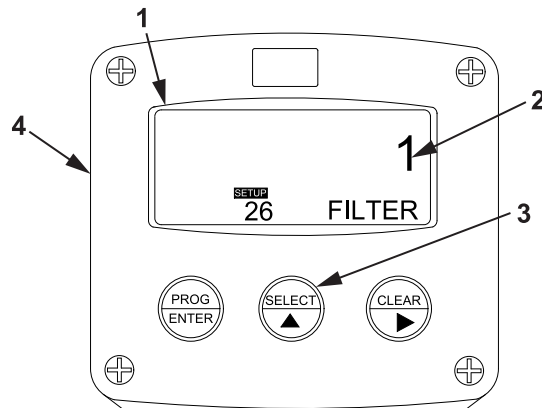

Figure 15. 1 Display.
- l. Verify that 1 (Figure 15, Item 1) appears on the display screen (Figure 15, Item 2). If 1 (Figure 15, Item 2) does not appear, perform the procedure to program tank volume meter monitor settings and select 1 (Figure 15, Item 2).
- m. Press the SELECT key (Figure 15, Item 3) on the tank volume meter monitor (Figure 15, Item 4).